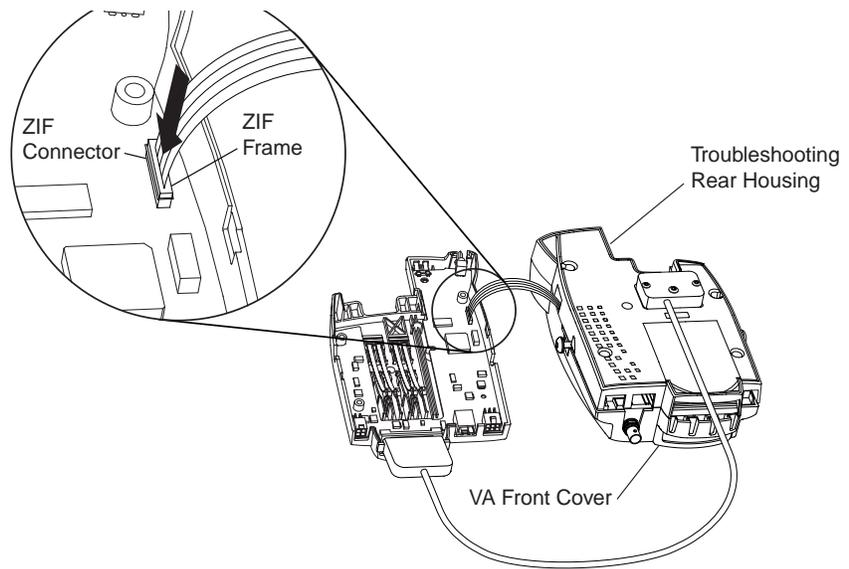

Figure 18 Securing the Flex Circuit Ribbon
15. Carefully grasp the free end of flex Extender and insert into the ZIF connector on the PCB. Secure the flex circuit ribbon end by pushing down on the ZIF connector frame, as shown in Figure 18.